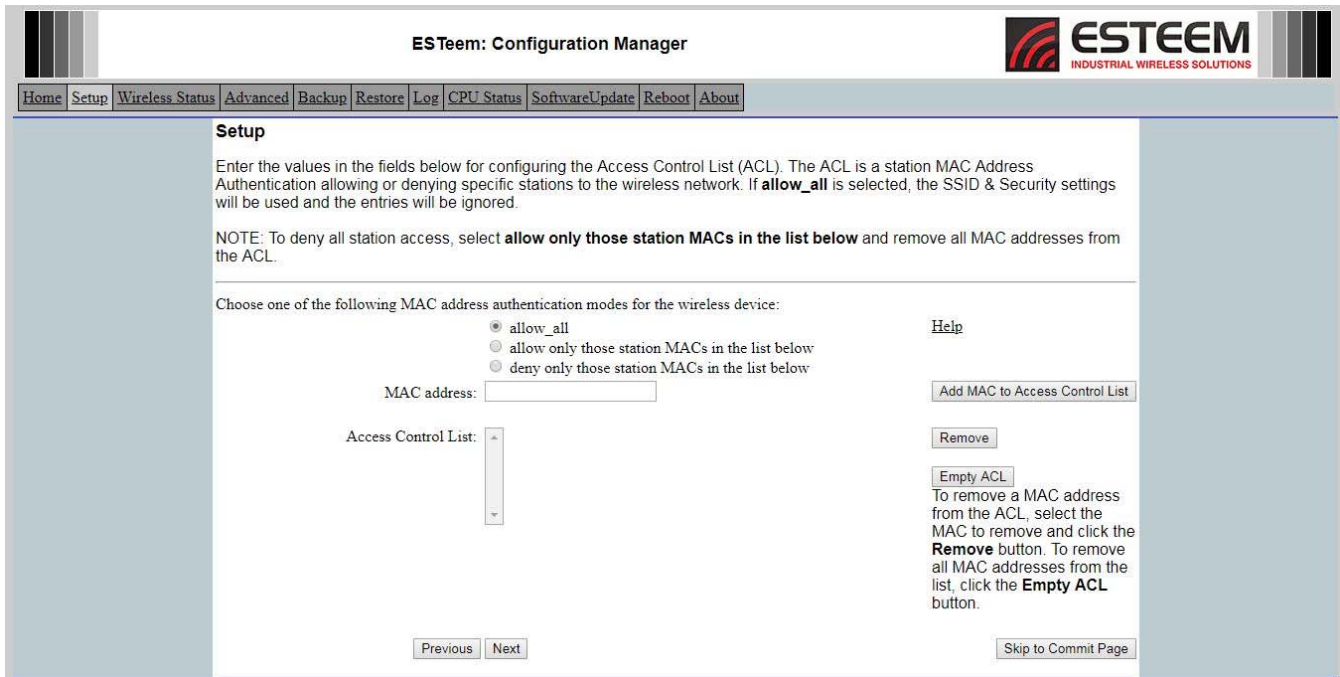

Figure 19: Access Control List
- The Access Control List (ACL) configuration is the next screen (Figure 19). This is last AP configuration screen for the Horizon and will be left at default for this example. The ACL is a very powerful tool by allowing (or denying) specific mobile clients to connect to the Horizon as an AP. The mobile client’s unique MAC address can be entered in the list and then set to allow (or deny) only those in the list. This configuration will only affect mobile clients, so it is not required to enter any Horizon radio